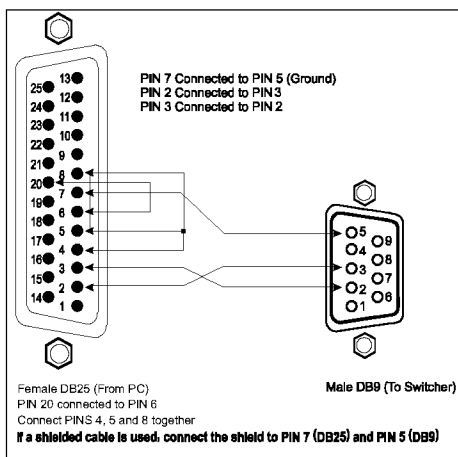

Figure 14: Connecting a PC (with a 25 pin connector) without a Null modem Adapter
1. Connect the PC's DB25 COM port to the RS-232 IN DB9 port on the **VS-162V** unit, as Figure 14 illustrates: